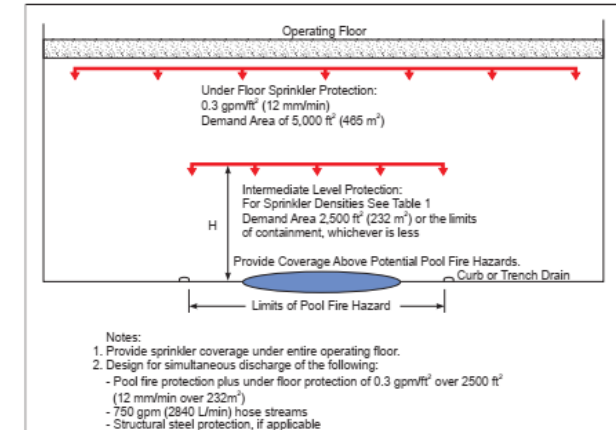

Fig. 8a. Optional protection for turbine buildings with solid operating floors higher than 30 ft (9.1 m)
2.4.3.1.1 Provide the following protection under solid operating floors with no mezzanine(s) (see Figure 8a).